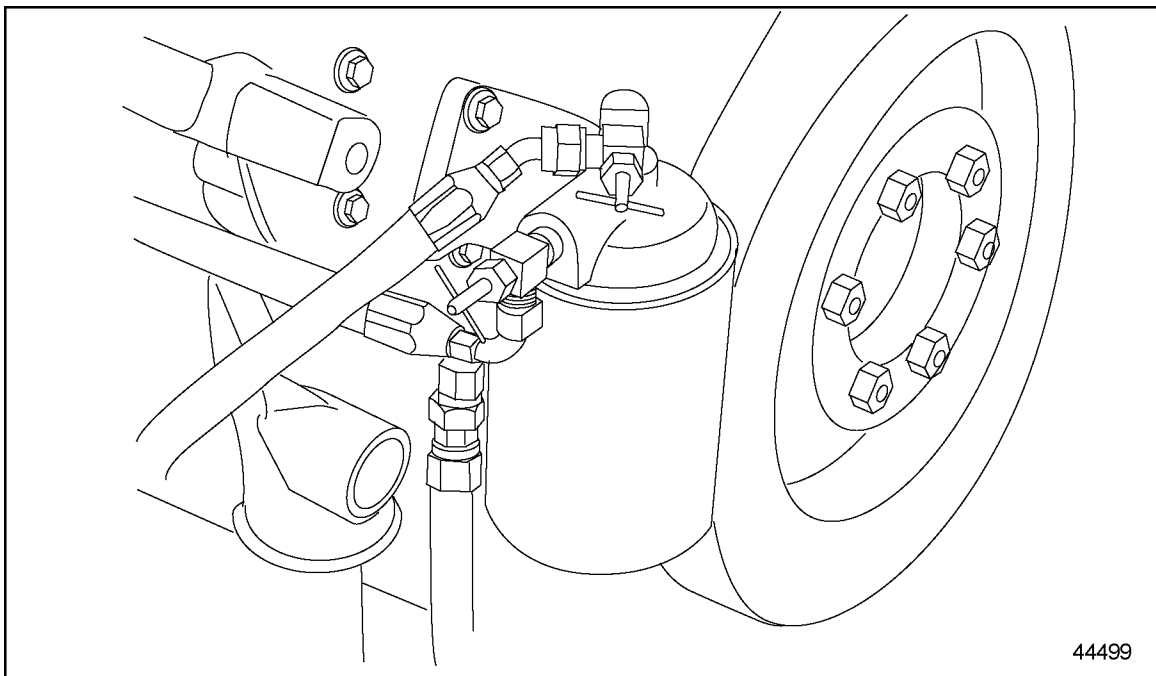

Figure 2 Current P/N: 23533617 Coolant Filter Adaptor Assembly
5. Install the new, current P/N: 23533617 filter adaptor assembly, as shown in Figure 2, reusing the P/N: 11509512 bolts.